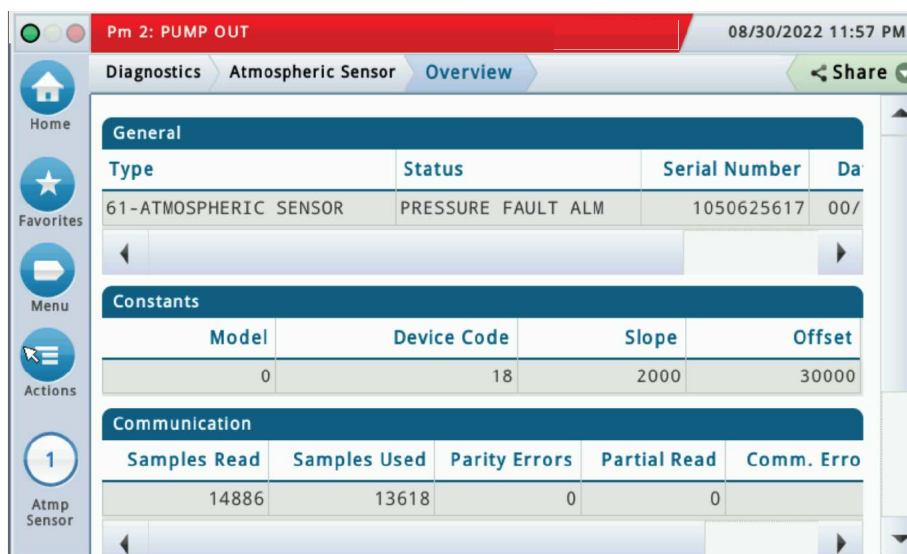

Figure 17. Atmospheric Sensor Overview Screen - Page 1
1. Touch Menu>Diagnostics>Atmospheric Sensor>Overview to display the Atmospheric Sensor overview screen (see Figure 17).